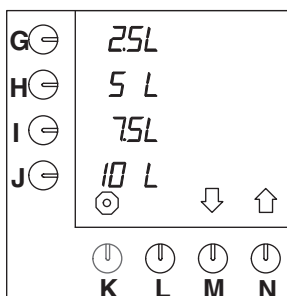

Fig. 23 Default pre-selection keys
The machine is default set to the unit L (= litres). This unit can be changed. (This unit is default on the display with the preference keys (fig.23)).
- Press selection key (N.)↑, until fig.23 appears on the display.